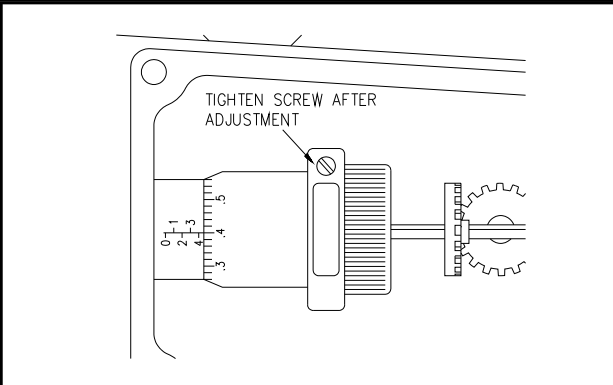

Figure 5
6. After resetting the calibration adjuster, tighten the clamp to hold the adjustment. See Figure 5.